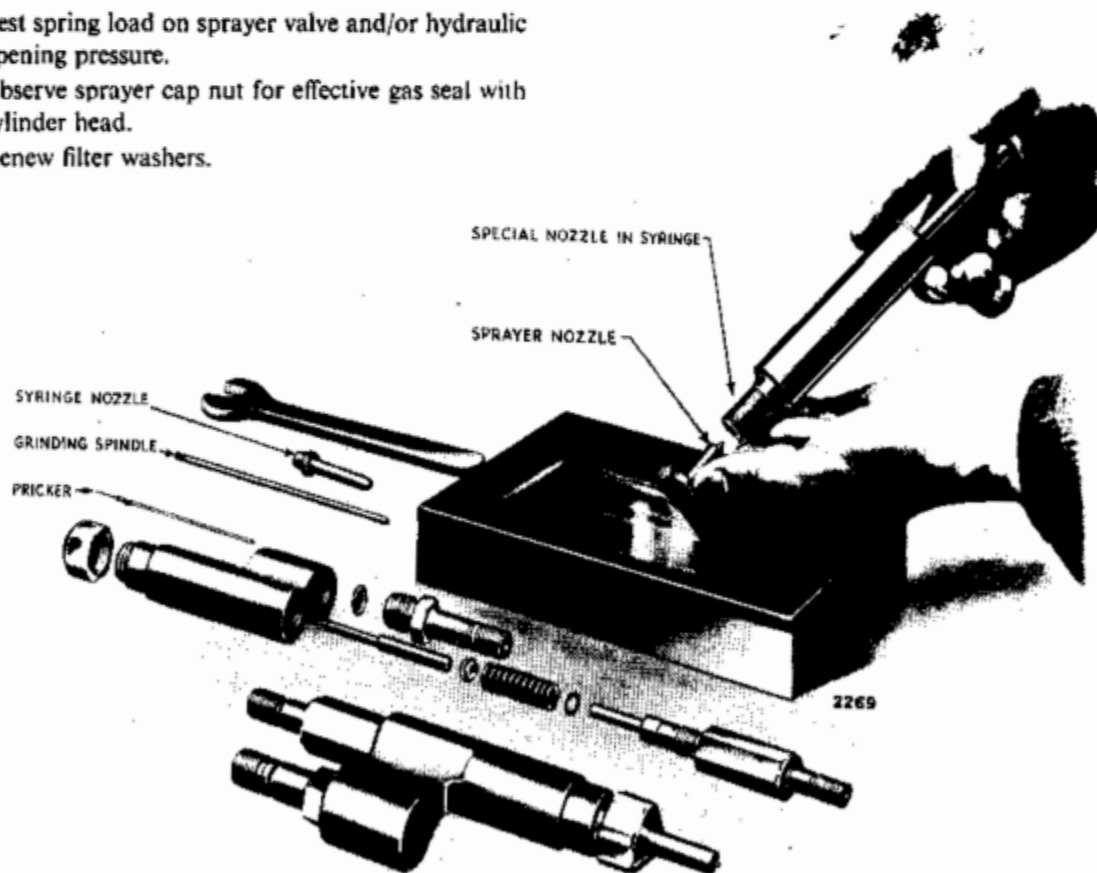

Fig. 43.
53. TO CLEAN SPRAYER NOZZLE. Cut a piece of wood or cane to approximately the same shape as the sprayer valve tip and rotate same in bore on seat of nozzle, using metal polish or 600 grit Carborundum powder. Prick out the jet holes and finally wash out by forcing paraffin from outside to inside of nozzle. Supplied with the engine is a syringe complete with special fitting made to receive the nozzle, which enables paraffin to be forced through the jet holes in a direction **opposite** to that obtaining when the engine is in operation. See Fig. 43.